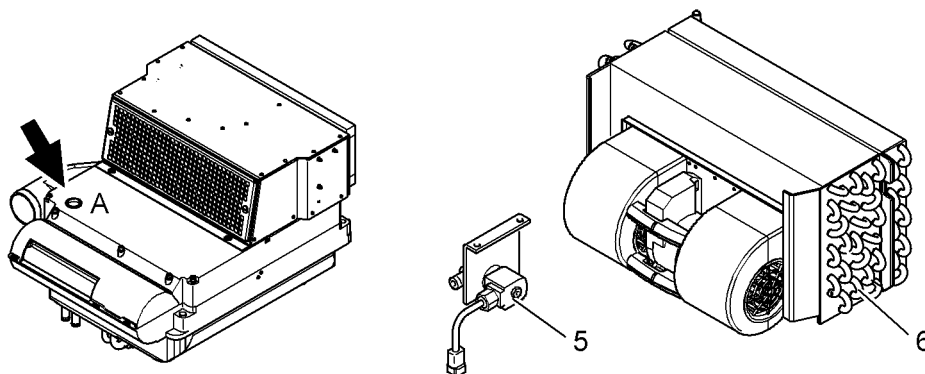

Fig. 5-77 Heating unit with solenoid valve
- Do not operate the machine, even briefly, without these filters, since the heat exchanger **6** will otherwise quickly become blocked (see Fig. 5-77).